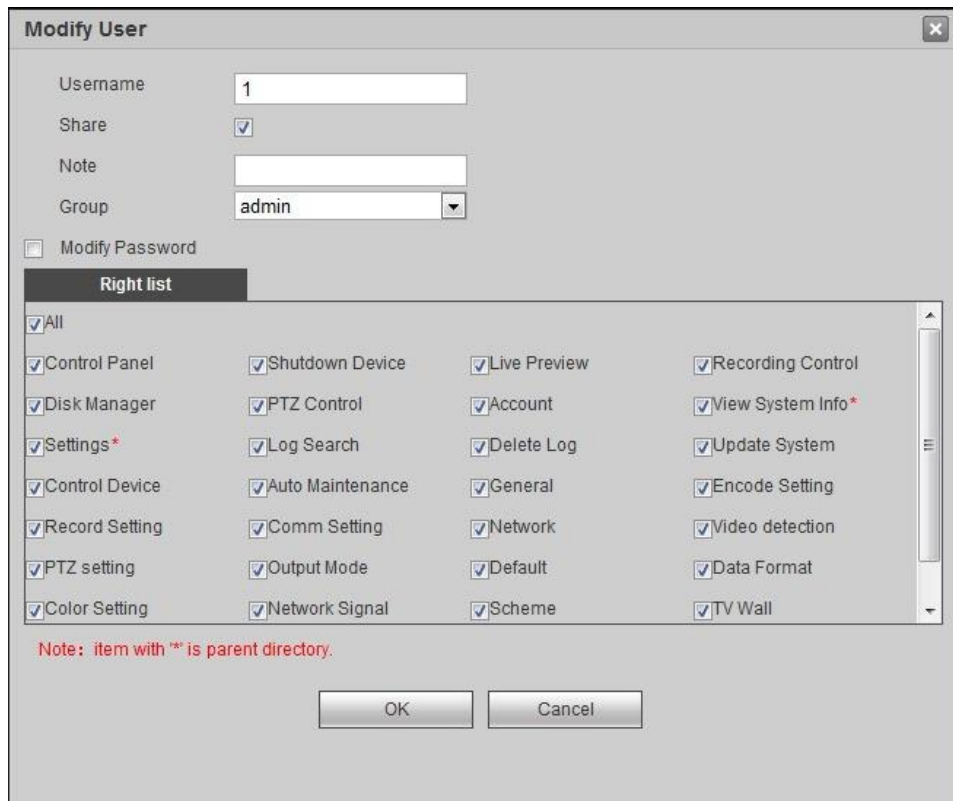

Figure 4-34
Step 1 Click  corresponding to the user. The system pops up “Modify User” interface, as shown in Figure 4-34.